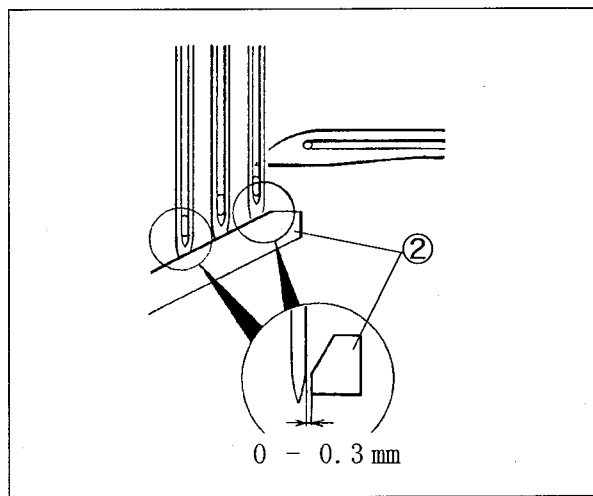

Fig. 6-28
- (4) Loosen the screws① and ③. Adjust the clearance between the needle guard(front)② and the left or right needle to 0 - 0.3 mm respectively. (Fig. 6-28)